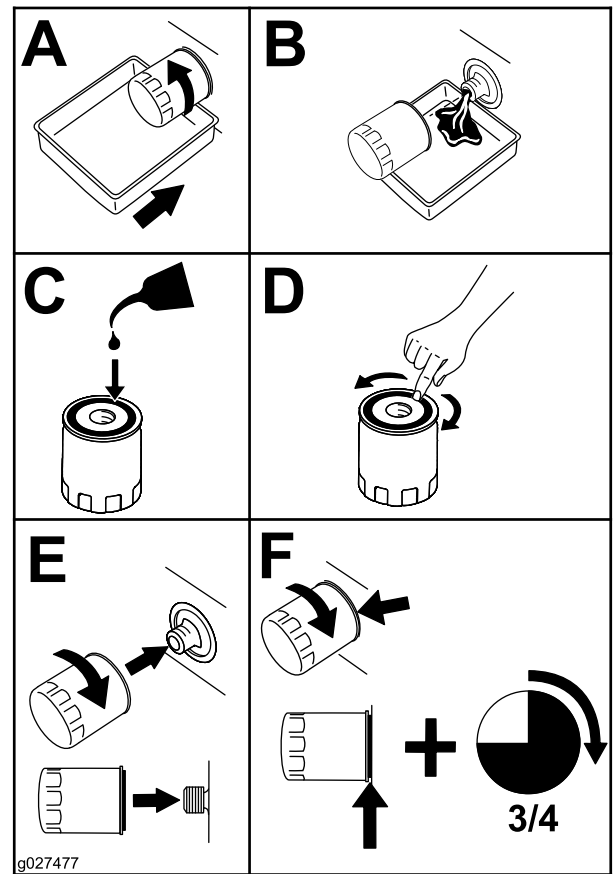

Figure 42
5. Replace the engine-oil filter as shown in Figure 42.